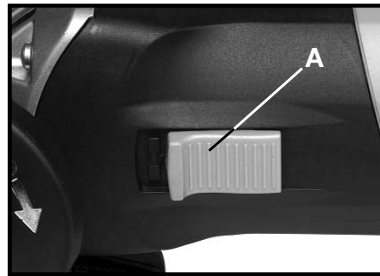

Fig. 1
2. Slide the switch button (A) Fig. 1 forward to turn tool "ON". When released, the switch will return to the "OFF" position.
3. To lock the switch in the "ON" position, turn the switch "ON", and press the front end of the switch button (A) Fig. 1. To release the switch lock, press the back end of the switch button.